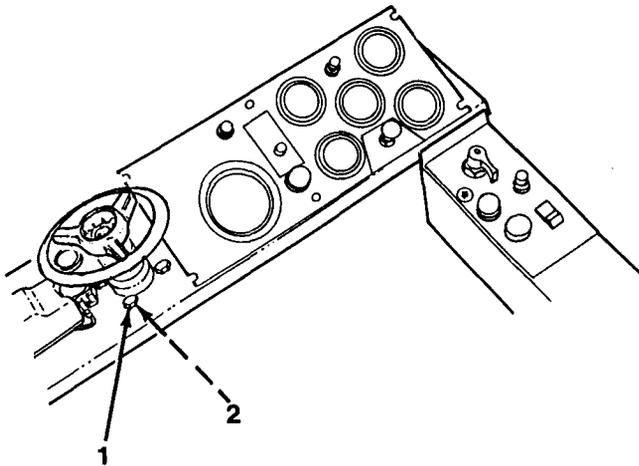

Figure 17-1
7. Connect electrical wires (1, Figure 17-1).
2. Remove four capscrews (1) and lockwashers (2, Figure 17-1) and lower steering assembly down so that steering wheel rests on instrument panel,